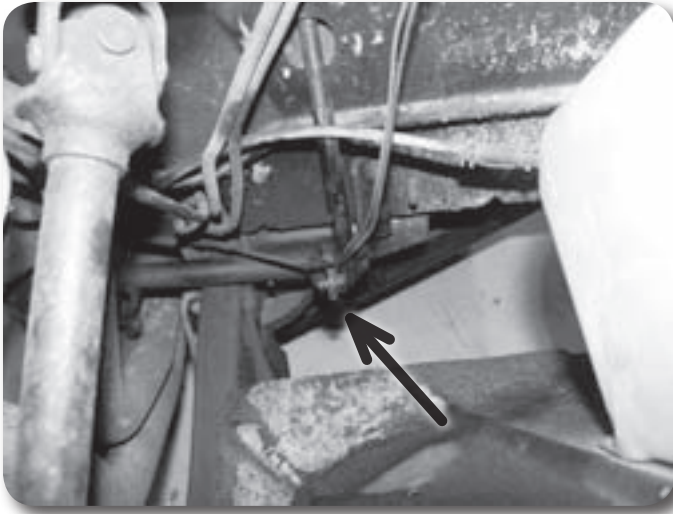

Figure 2
5. Remove opposite end of clutch linkage under hood as shown – Fig 2.